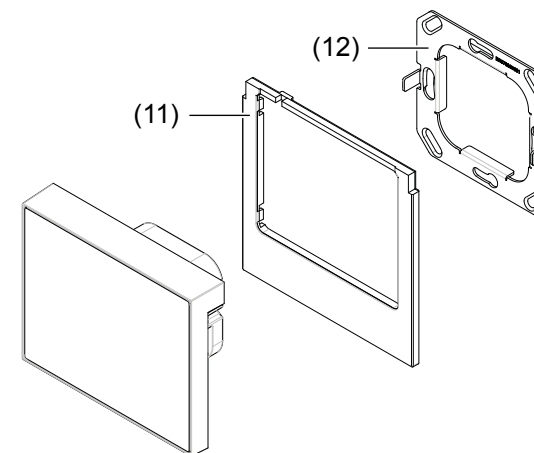

Figure 10: Installation
- Attach the design frame (11) at the back and press over the fixtures (15) until it snaps into place.
- Position the device over the supporting ring in the correct position so that the mounting devices on the device (13) and the pins on the supporting ring (12) are lying on top of each other (Figure 10).
- Slowly press the device onto the support ring (12) until the clamping springs (16) engage in the support ring and the magnetic holding points (14) additionally secure the support ring.